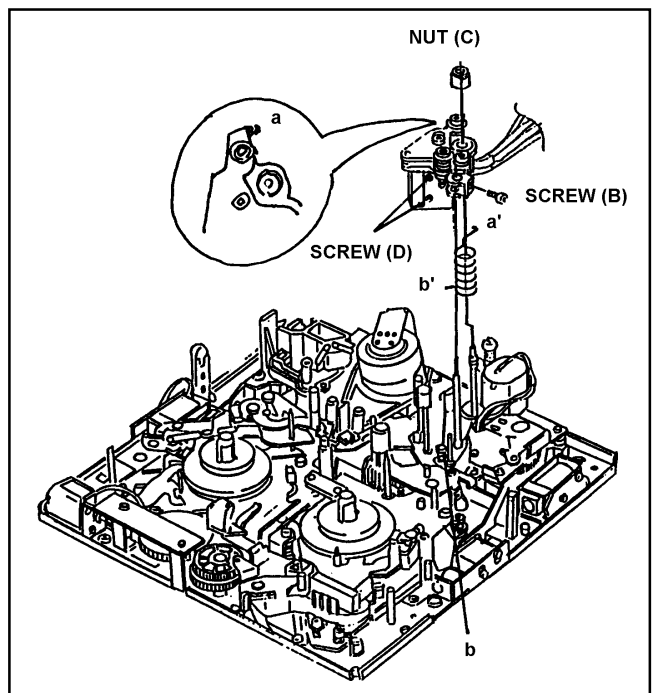

Figure 5-19-1
3. Loosen the hex screw (B) and remove the Nut (C). Hang off the Head Height Adjustment Spring and then remove the A/C Head Unit as shown in Figure 5-19-1.